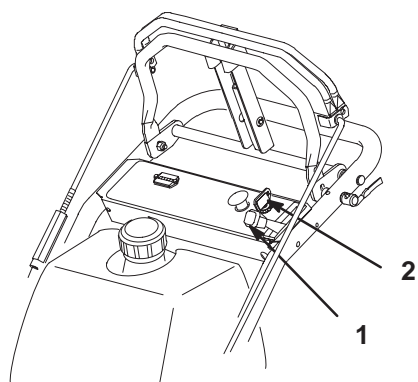

Figure 13
2. Move the throttle control to “CHOKE” position before starting a cold engine (Fig. 13).
3. Turn ignition key “START” to energize starter. When engines starts, release key (Fig. 13).
1. Move the throttle lever to “SLOW” (Fig. 13).
2. Turn the ignition key to “OFF” (Fig. 13).